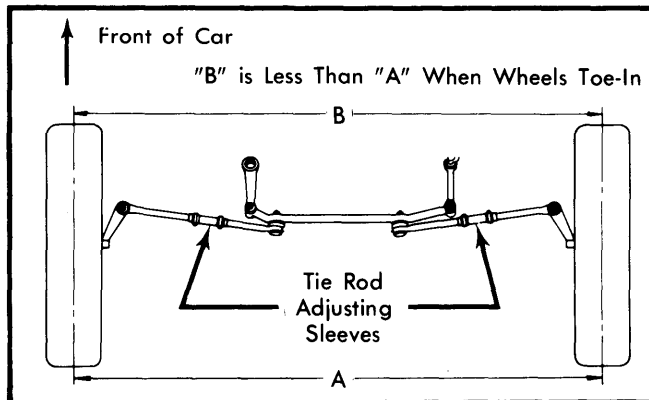

Fig. 2 Adjusting Tie Rod Sleeves (Top View)
- Ensure that steering wheel is centered with wheels in straight ahead position. If required, shorten 1 tie rod adjusting sleeve and lengthen opposite sleeve. See Fig. 2.
1) Measure toe-in with front wheels in straight ahead position and steering wheel centered. To adjust toe-in, loosen clamps and turn adjusting sleeve or adjustable end on right and left hand tie rods. See Figs. 2 and 5.